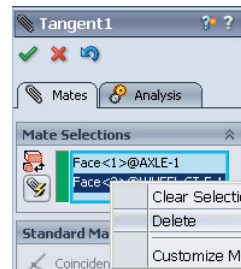

Fig. 5
Step 6. If you select the wrong face, **right click** the Mate Selection in the Mate Property Manager and click Delete, **Fig. 5**.